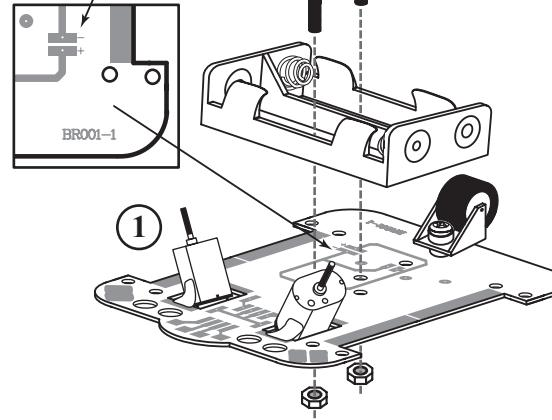

Figure 7 Battery Holder Fixing.
3. Fix the battery holder to the circuit board with using two 6 mm. flat bolts as holders. Make sure that the wiring side facing the right connecting point, as shown in Fig. 7.